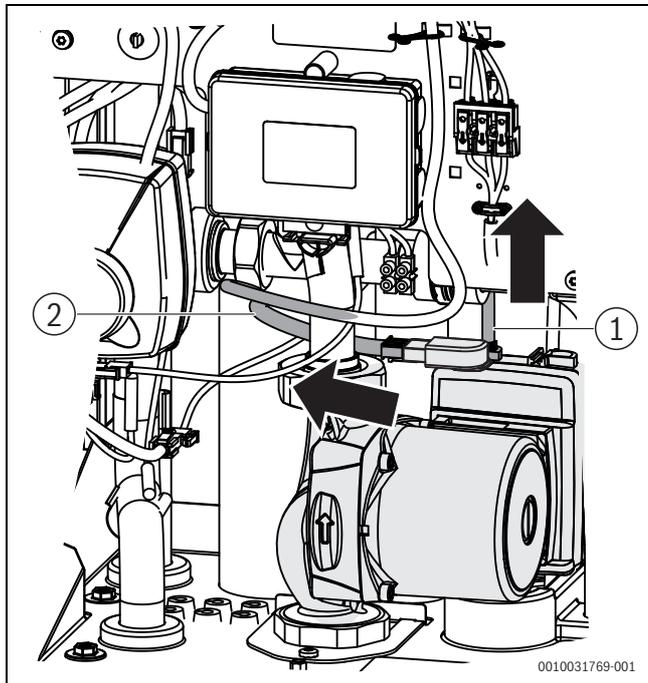

Fig. 37 Unplug the plug
- ▶ Pull off 2 plugs (power supply and signal) on the pump (→Fig. 37).